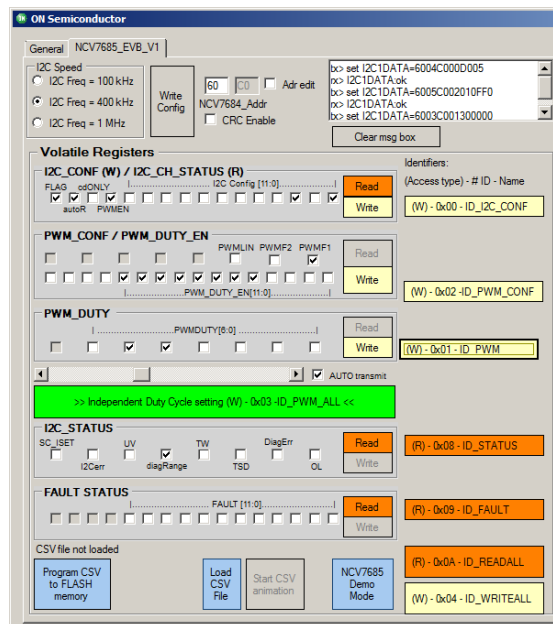
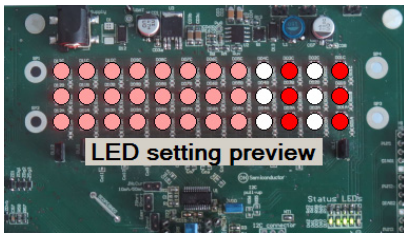

Figure 11. Test Register Setup
Figure 12. Expected Output Channel Intensity
15. To check the functionality, set the registers based on the Figure 11 screenshot. Then click on the “write” buttons: *ID_I2C_CONF*, *ID_PWM_CONF* and *ID_PWM*. The expected output LED intensity is shown in Figure 12.